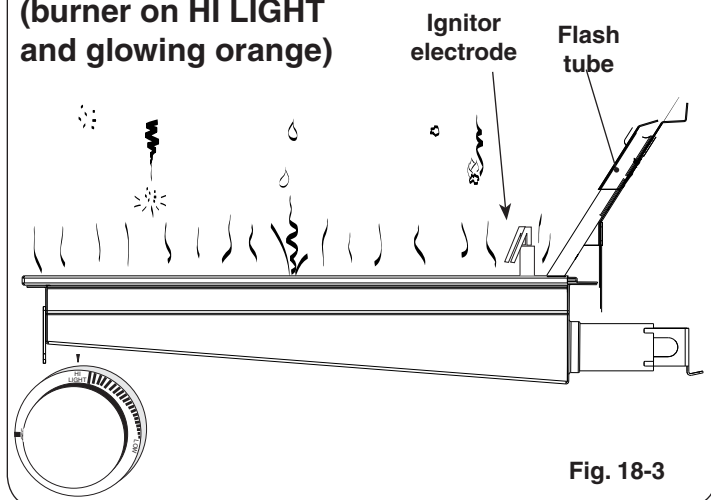

Fig. 18-3
- **DO NOT place food on the cooking grid until the IR burner glows orange (Fig. 18-3).** Drippings are heated and evaporate instead of sticking to and impairing burner function.